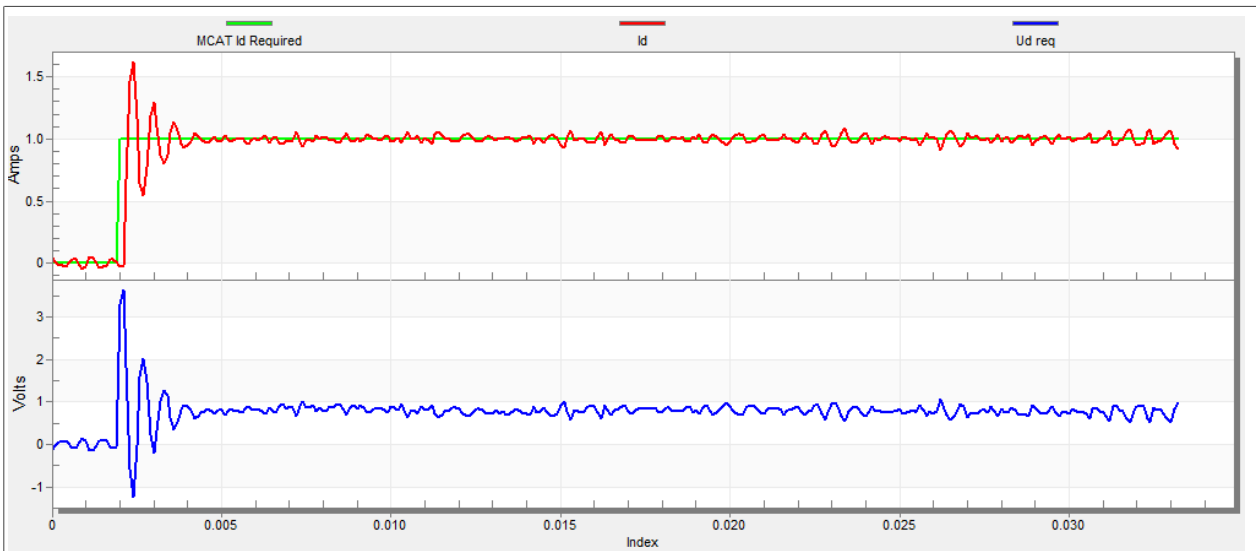

Figure 29. Fast step response of the Id current controller
- The loop bandwidth is high (700 Hz) and the response time of the Id current is very fast, but with oscillation and overshoot (see Figure 29).